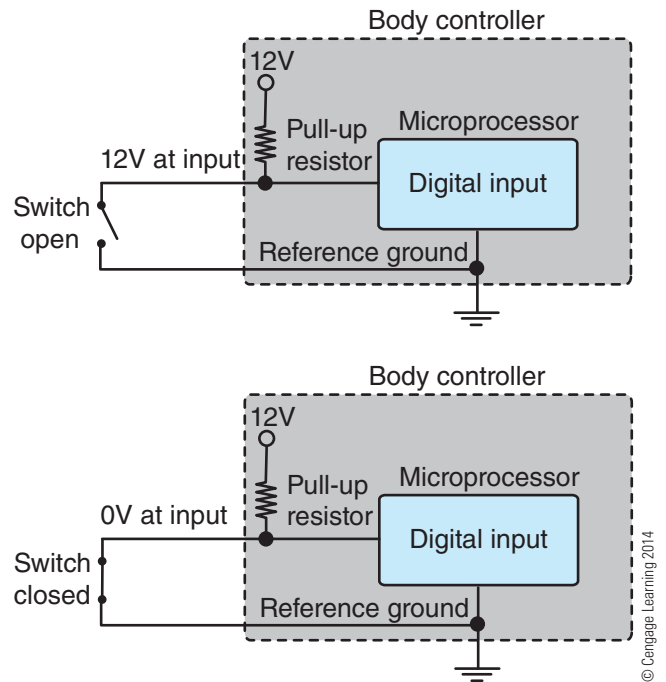

Figure 13-8 Open switch (upper) and closed switch (lower) with digital input.
Diagnosable Switches. A common electrical switch only has two states, open and closed. A switch is typically connected to the digital input of an electronic module in a microprocessor-controlled system. A digital input can only resolve two ranges of voltage levels, high and low. Voltages above some value are considered as logic high (1), and voltages below some value are considered as logic low (0). Based on the voltage measured at the digital input, the microprocessor can determine if the switch is opened or closed (**Figure 13-8**). A closed switch should have near 0Ω of resistance, while an open switch has a very high (infinite) resistance.